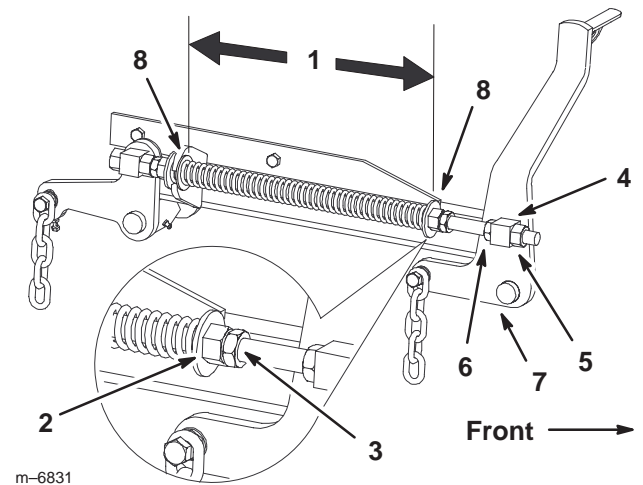

Figure 68
7. Loosen the front swivel jam nuts, at the front of the right and left swivels, approximately a 1/2 inch (13 mm) (Fig. 68).
8. Adjust the lift nuts on both the left and the right side of the machine to achieve **1/4 to 3/8 inch (6 to 10 mm) lower in front at A than in the rear at B** (Fig. 68).
2. Check the distance between the two large washers, it needs to be 10-1/2 inches (26.7 cm) (Fig. 68).
3. Adjust this distance, by loosening the spring jam nut and turning the nut in front of each spring (Fig. 68). Turning the nut clockwise will shorten the spring; counter-clockwise will lengthen the spring.
4. Lock the nut into position by tightening the spring jam nut (Fig. 68).